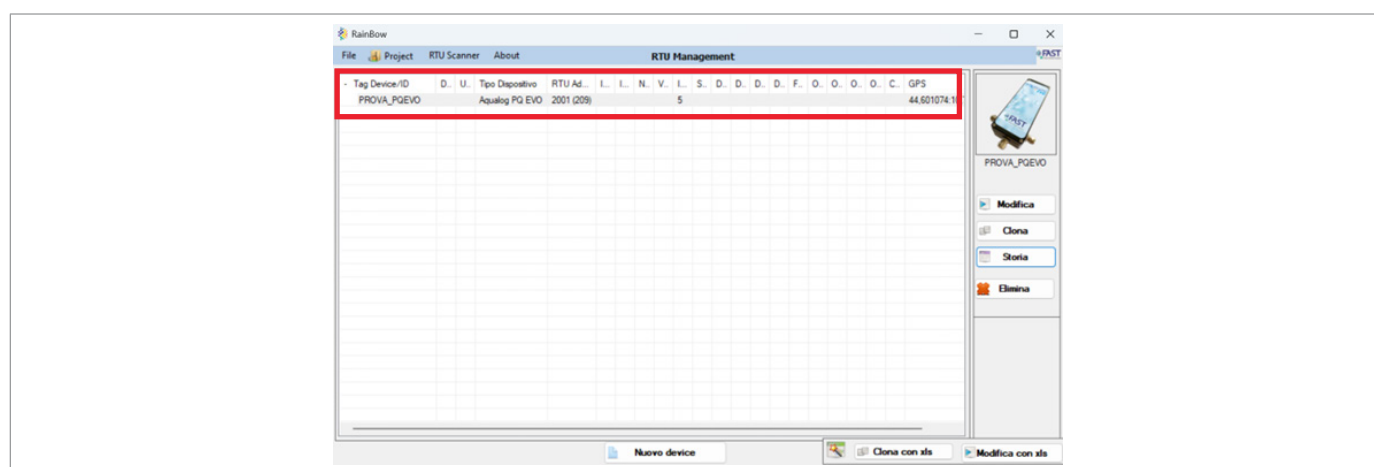

Fig. 8.19. RTU selection
3. Select the desired RTU (Fig. 8.19)